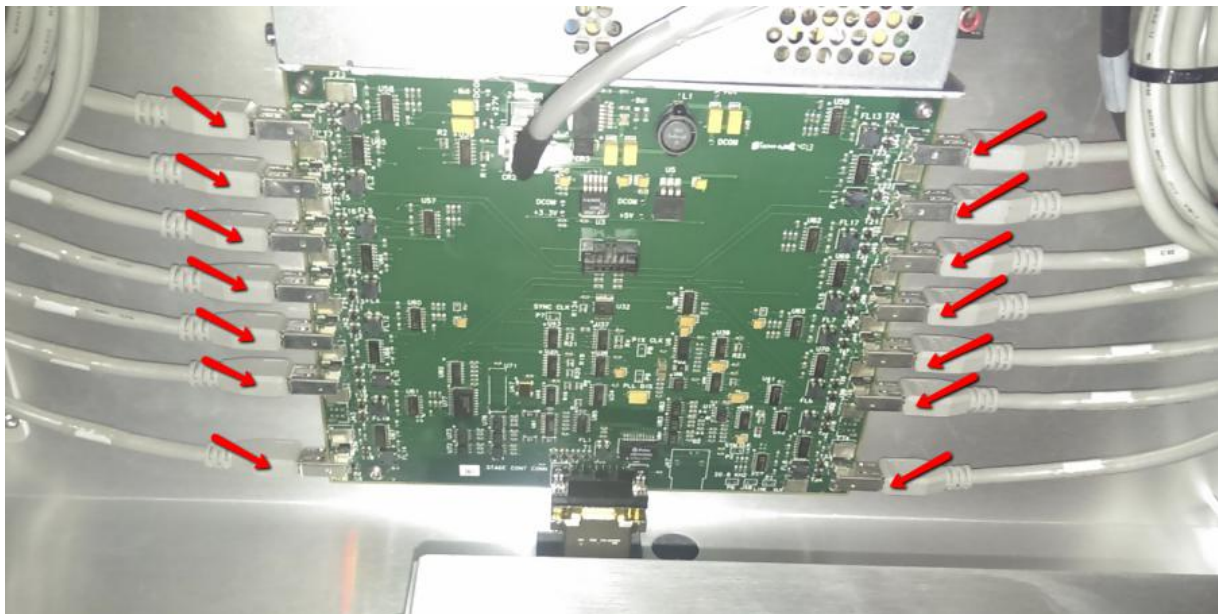

Figure 31 Fire Wire connection
15. Connect 14 x Fire Wires into Trigger Board Fire Wire Port as below Figure 31